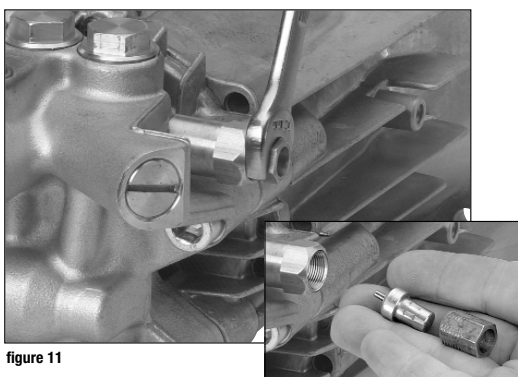

figure 11
1. Remove thermal relief valve screw cap. (figure 11)
2. Disassemble thermal relief valve. (inset figure 11)